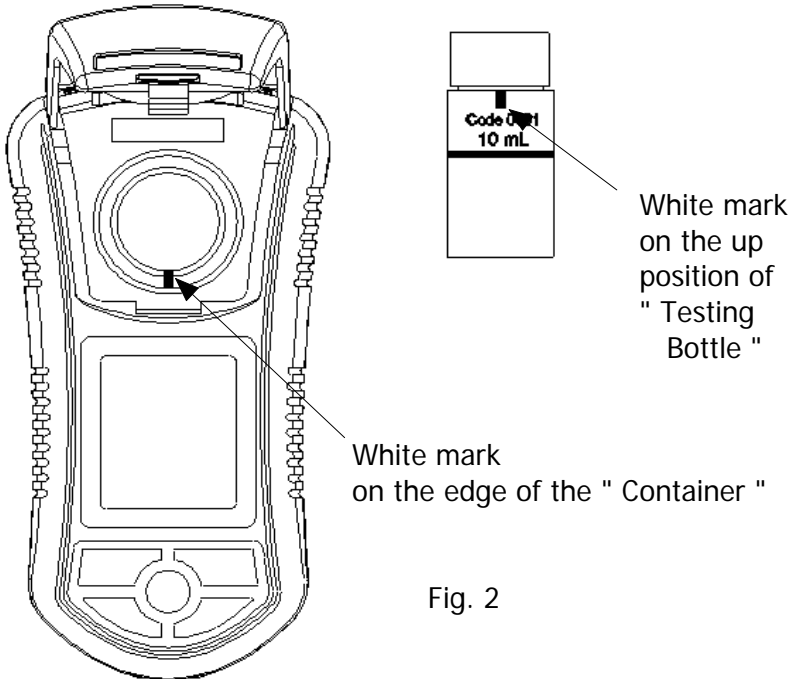

Fig. 2
- 1) There is a " White mark " on the edge of the " Container " (3-2, Fig. 1) and also on the up position of " Testing Bottle " (3-10, 3-11, 3-12 3-13, 3-14 Fig. 1), refer Fig. 2.